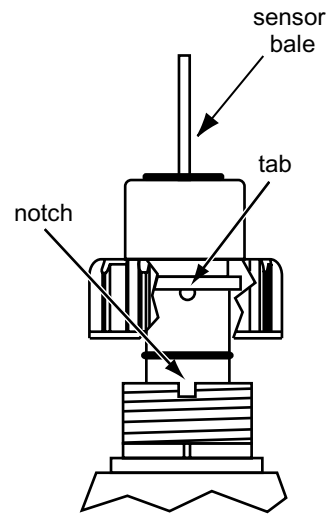

Figure 4
8. Align the tabs under the red sensor cap with the notches on the fitting insert and tighten the red sensor cap. (Figure 4)